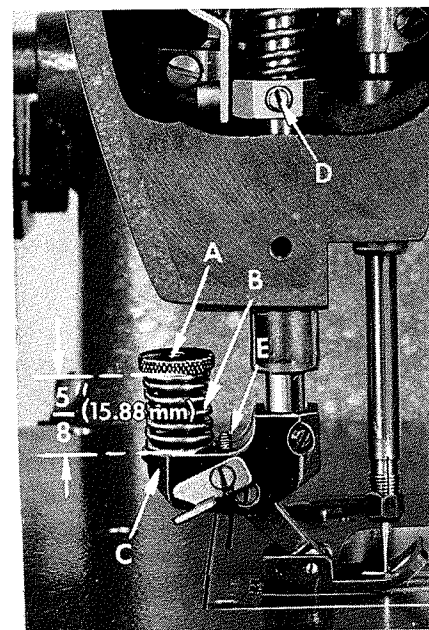

Fig. 17
As a preliminary setting, adjust spring regulator nut (A, Fig. 17) on the feeding presser foot so the distance from the top of the spring (B) to the yoke (C) is  $\frac{5}{8}$  inch (15.88mm), (See Fig. 17). Assemble feeding presser foot to presser bar. With presser foot resting on throat plate and feed dog down, press down on spring regulator nut (A, Fig. 17) until the marks on presser foot bottom line up with the centerline of the needle, while keeping the needle in the center of needle slot, tighten set screw (D) securing presser bar guide to the presser bar, making sure that the stop screw in presser bar guide is resting on the bed casting.
When the presser foot is lifted off the bare throat plate, the foot should move back only slightly, less than  $\frac{1}{64}$  inch (.40mm). The stop screw (E, Fig. 17) on the yoke, which is set at the factory, can be readjusted if necessary, should this dimension become changed.